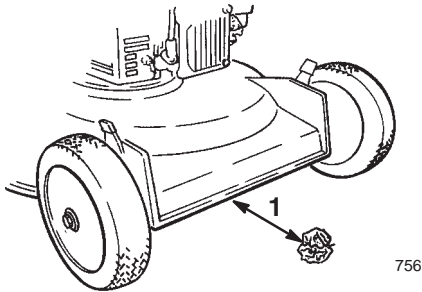

Figure 10
5. Take a half sheet of newspaper and crumple it into a ball small enough to go under the deck (about 3 inches or 76 mm in diameter) as shown in Figure 10.
6. Place the ball of newspaper 5 inches (12.7 cm) in front of the lawn mower (Fig. 10).
- A. Place the ball of newspaper 5 inches (12.7 cm) in front of the lawn mower (Fig. 10).